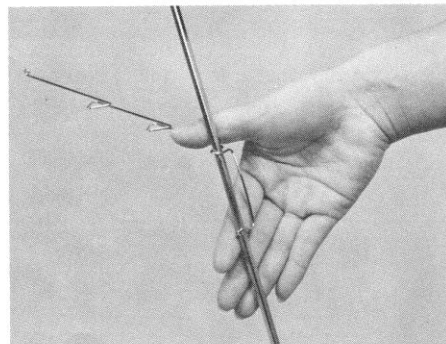

Fig.17
11. Clip yarn guide wire to rod about 8" to 10" from the top of the rod as shown in Fig.17.